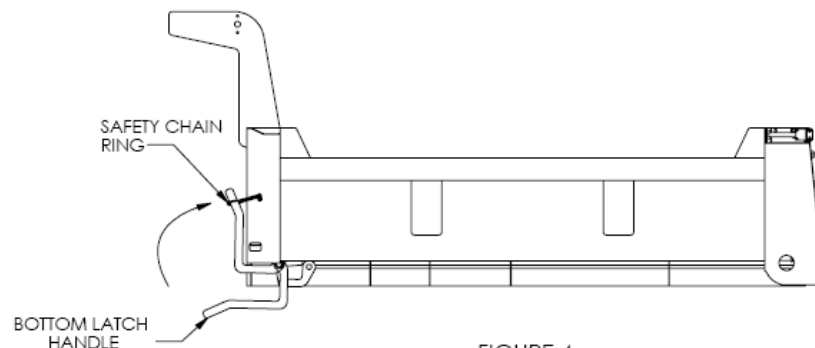

FIGURE 4
4. Rotate the bottom latch handle up to latch tailgate bottom as shown in Figure 4.